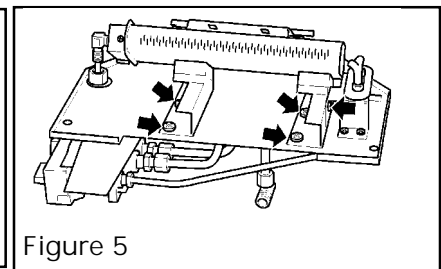

Figure 5
4. Detach the burner supports from the module tray by removing five screws. See figure 5.